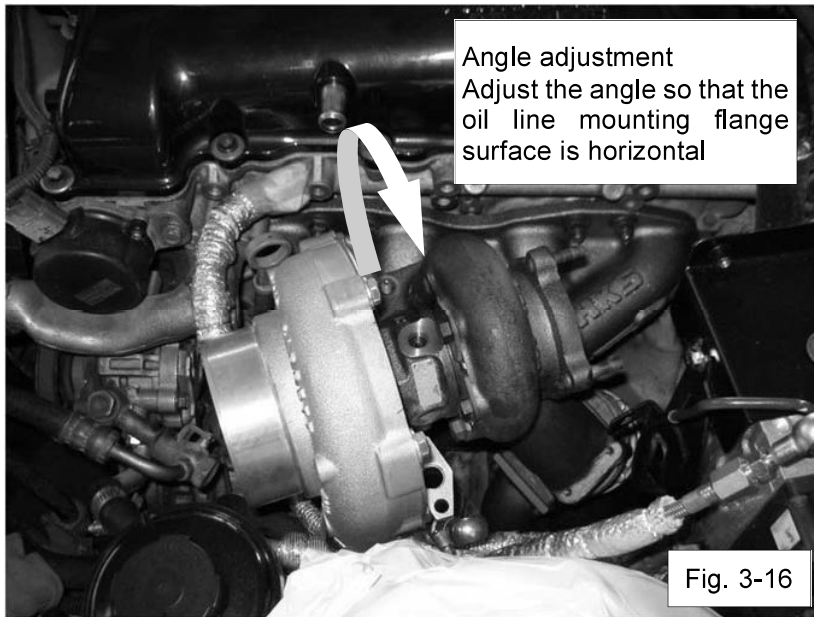

Fig. 3-16
- (16) Loosen the V-band coupling holding the turbocharger exhaust housing and adjust the center housing angle. (Fig. 3-16)